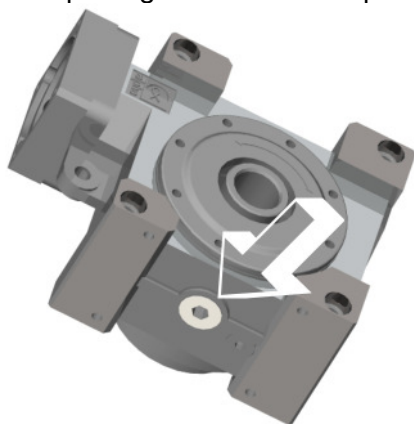

Fig. 8.1
- ➔ Drain the oil off through a plug located below. (fig. 8.1)